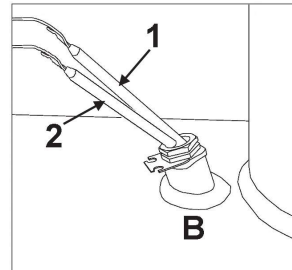

Fig. 18 - Well B
Insert in the well "B" (Fig. 18), the bulb of the 1st stage thermostat (1) and that of the 2nd stage thermostat (2).